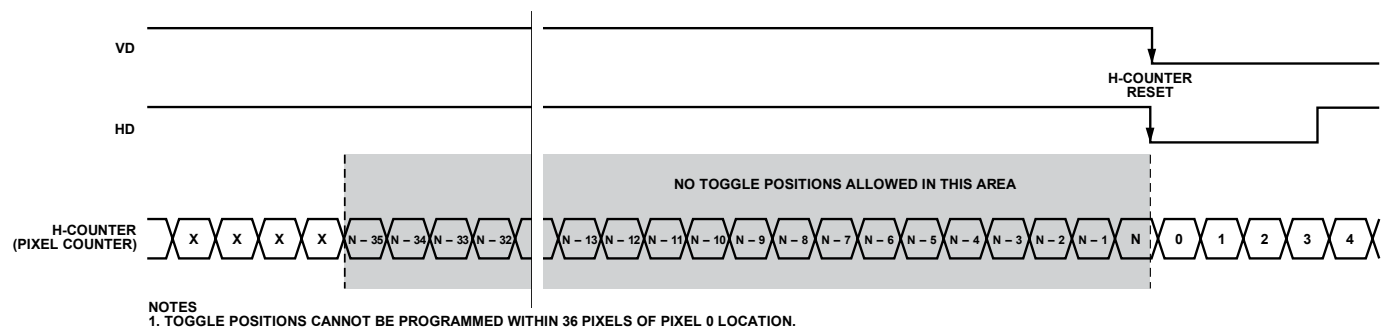
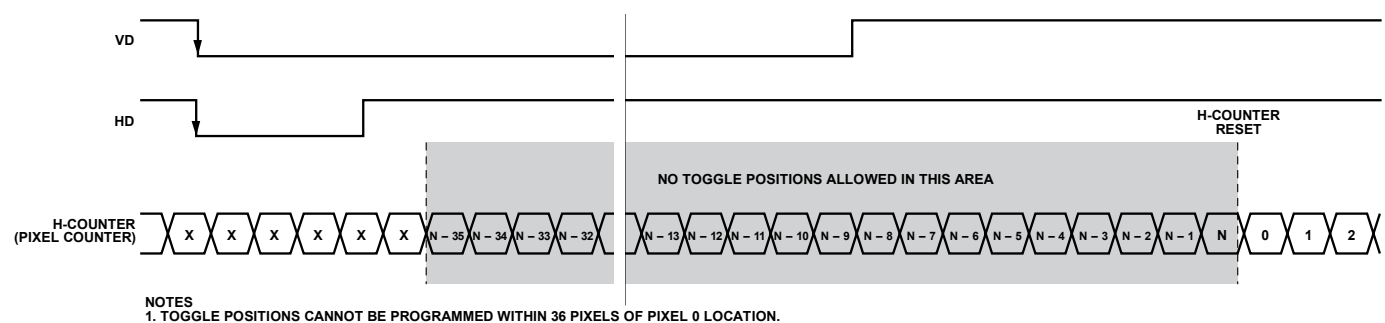
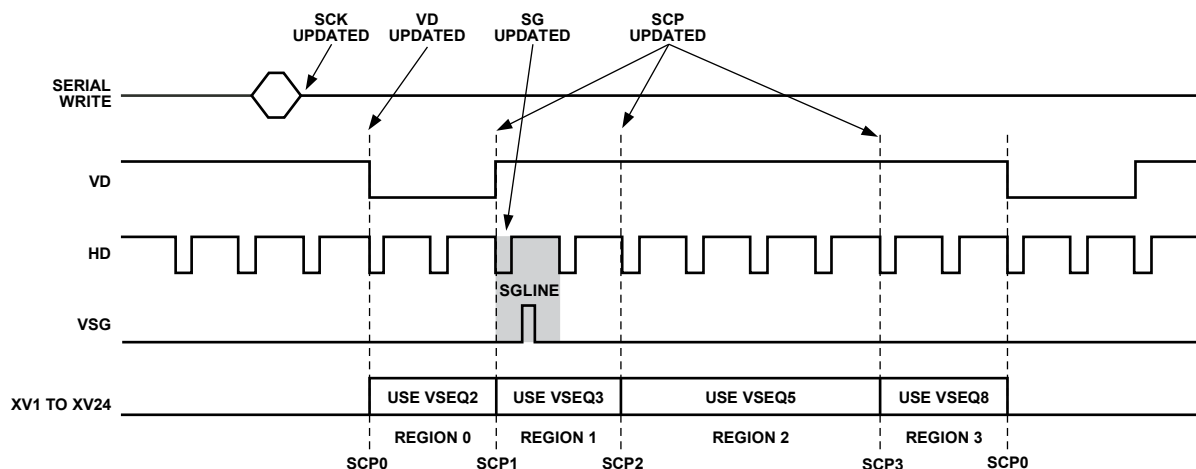

Figure 78. Toggle Position Inhibited Area—Master Mode
Figure 79. Toggle Position Inhibited Area—Slave Mode
Figure 87. Register Update Locations (See Table 28 for Definitions)
As shown in Figure 78 for master mode, the last 36 pixels before the HD falling edge must not be used for toggle position placement of the V, VSG, SUBCK, HBLK, PBLK, or CLPOB pulses.
Figure 79 shows the same example for slave mode. The same restriction applies: the last 36 pixels before the counters are reset cannot be used. However, in slave mode, the counter reset is delayed with respect to VD/HD placement, so the inhibited area is different than it is in master mode.
- **SCP Updated**—At the next SCP where they are used, the V-pattern group and V-sequence registers are updated. For example, in Figure 87 this field has selected Region 1 to use VSEQ3 for the vertical outputs. This means that a write to any of the VSEQ3 registers, or any of the V-pattern group registers, which are referenced by VSEQ3, updates at SCP1. If multiple writes are made to the same register, the last one done before SCP1 is the one that is updated. Likewise, register writes to any VSEQ5 registers are updated at SCP2; register writes to any VSEQ8 registers are updated at SCP3.
It is recommended that the registers in the configurable address area not be written within 36 pixels of any HD falling edge where a sequence change position (SCP) occurs. See Figure 78 and Figure 79 for examples of what this inhibit area looks like in master and slave modes. This restriction applies to the V-pattern, V-sequence, and field registers. As shown in Figure 87, writing to these registers before the VD falling edge typically avoids loading these registers during SCP locations.